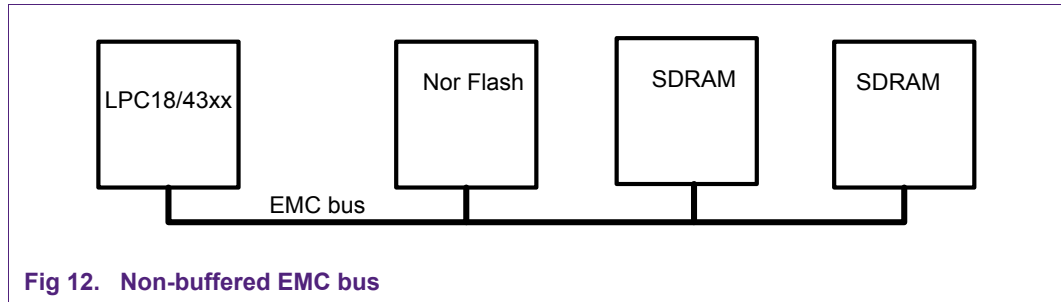

Fig 12. Non-buffered EMC bus
- In daisy-chain topology place the LPC18xx/43xx at one extreme end of the daisy-chain and the SDRAM at the other extreme end. Other devices can be distributed along the daisy-chain, see Fig 12.